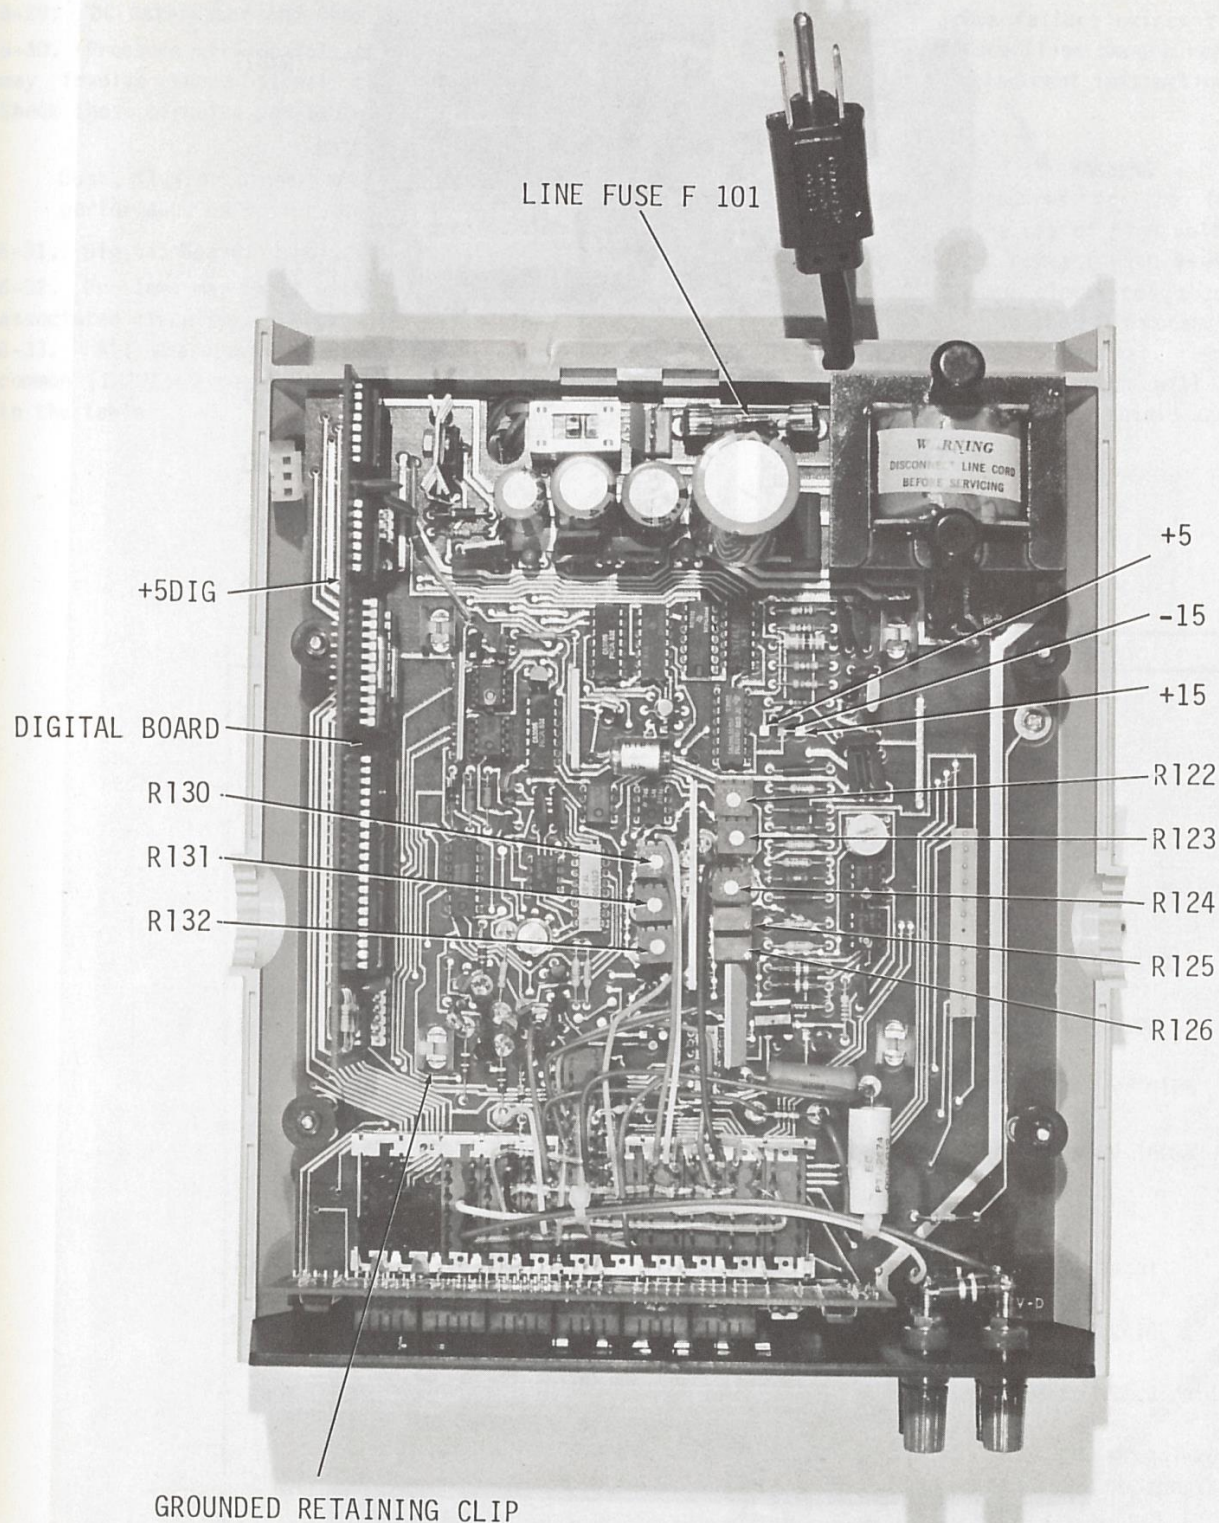

FIGURE 6-2. Model 191 (Shield Removed)
- b. Remove mother board shield by carefully lifting shield from the retaining clips. To reinstall, position shield on the four retaining clips so that the small bent tab on side of shield is positioned against the grounded retaining clip (See Figure 6-2). This tab prevents the shield from moving too far towards the rear of the mother board. Press firmly on top of shield to engage fully into retaining clips.
** Refer To Figures 6-2 and 6-3 for location of Adjustment Points.
* On main printed circuit board (see Figure 6-2).